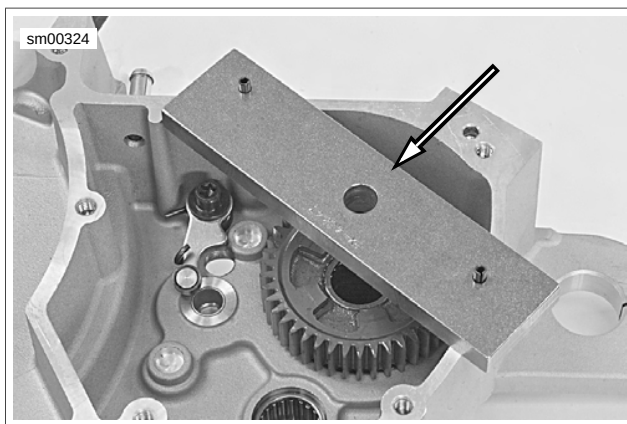

Figure 6-68. Bearing Remover Cross Plate Mounting
4. Obtain MAIN DRIVE GEAR REMOVER AND INSTALLER SET. See Figure 6-68. Place CROSS PLATE (Part No. B-45847) on right crankcase as shown. Position cross plate